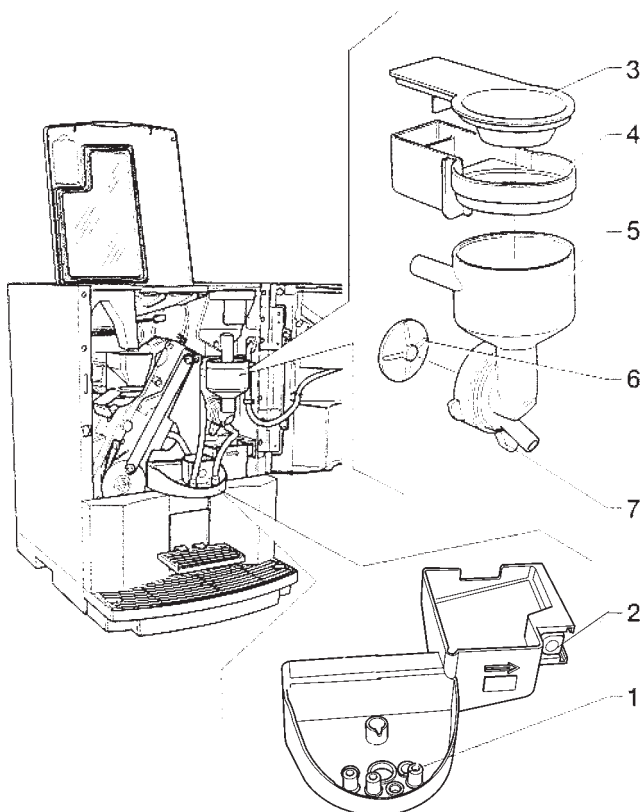

Fig. 25
- remove the powder and the water funnels, the feeders, the powder deposit drawers and the mixer wheels from the mixers (see Fig. 25);